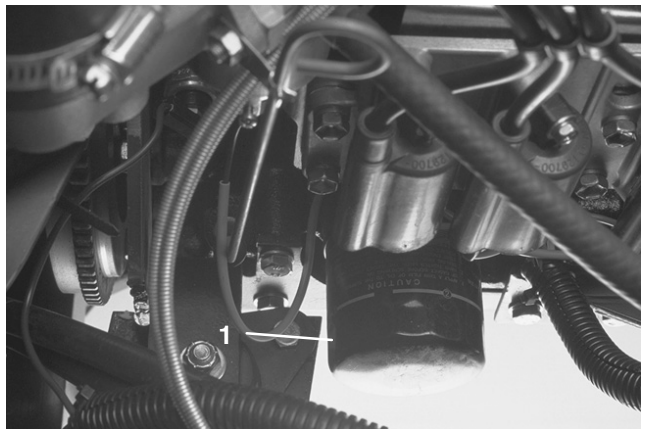

Figure 38
5. Remove and replace oil filter (Fig. 38).